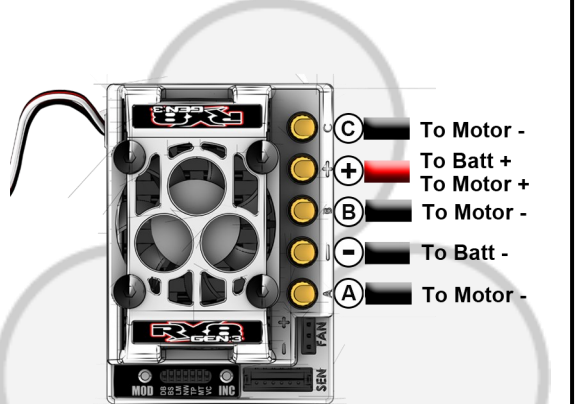

FIGURE 6.
- 3) Forward Only Wiring (use only Motor Type 4): Refer to Fig. 6. Connect all 3 ESC motor outputs (ABC) together, then connect them to the NEG (-) terminal of the motor. Connect another wire from the motor POS (+) terminal to the BATT (+) terminal on the ESC.